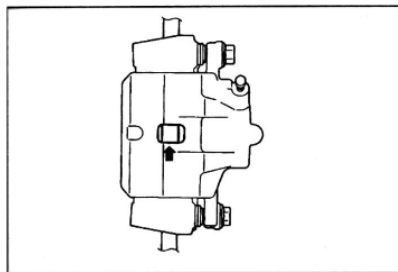

Fig. 16-16
- (1) Check brake pad thickness through caliper body check port by eye(see Fig. 16-16).